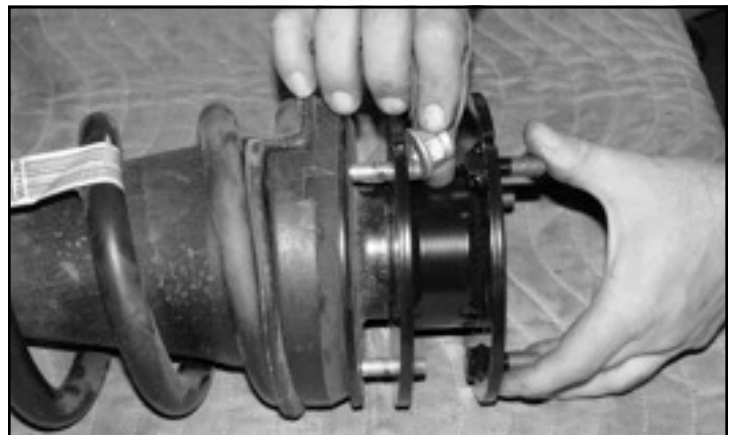

FIGURE 35 - STEP 35
35. Install the FT20801 coil spacer using the factory nuts and torque to 30 ft-lbs. **SEE FIGURE 35. NOTE: If installing on vehicle equipped with Magna-Ride you will need to route the wire through the new Fabtech spacer.**